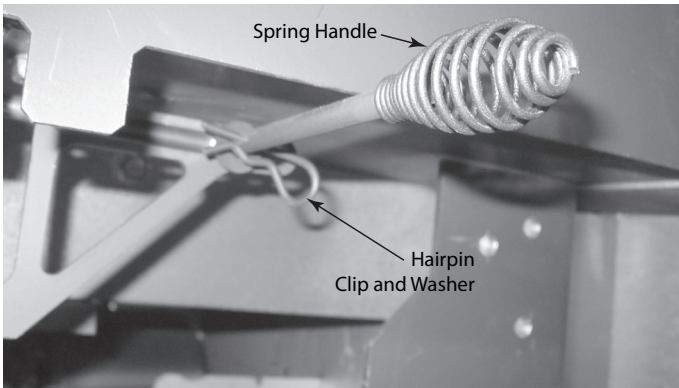

Figure 4.17 Removal of Spring Handle
3. Remove the spring handle by twisting it to the left and pulling on it. Hold on to the rod as this is being done. See Figure 4.17.
4. Pull off and remove the front hairpin clip and washer on the rod. See Figure 4.17.